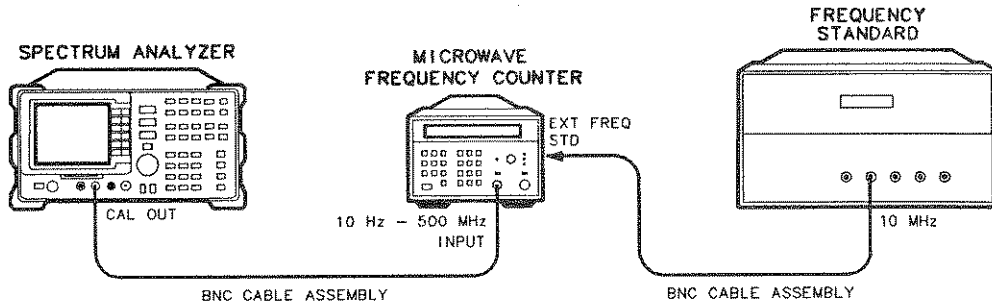

Figure 3-1. 10 MHz Reference Accuracy Test Setup (Standard Reference)
- 1. Connect the equipment as shown in Figure 3-1.